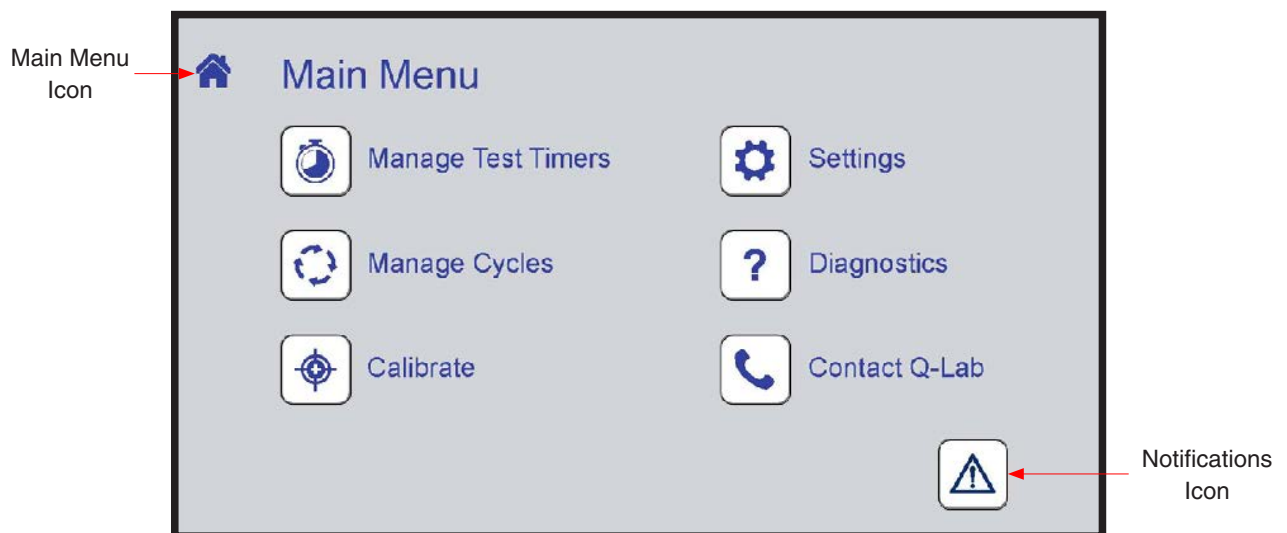

Figure 9.3: Main Menu screen.
- The Main Menu is the home display for the menu screen (Figure 9.3).